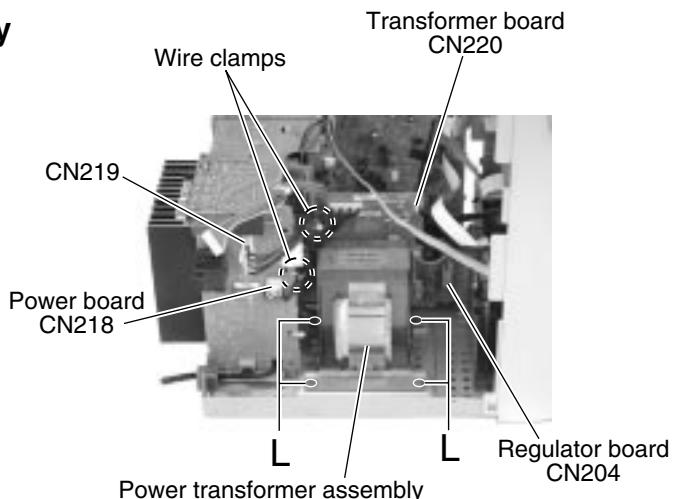

Fig.28
■ Removing the power transformer assembly (See Fig.28 and 29)
- Remove the two wire clamps on the power amplifier board (1) and power board.